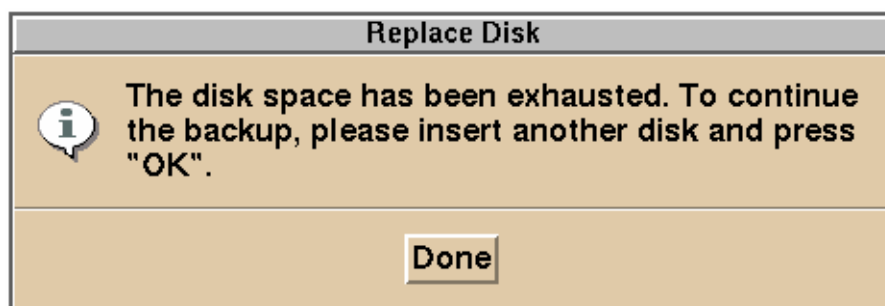

Fig. 6.10-4 Dialog requesting Replacement of MOD/DVD
- (5) Click [Ok] button. The backup operation into the MOD/DVD automatically starts.
- (6) When no more file space is available in the MOD/DVD during backup operation, the dialog shown in Fig. 6.10-4 is displayed. After confirmation, click [Done] button and replace the MOD/DVD with a new one. After the MOD/DVD is identified, click [Continue] button. The backup operation is restarted.